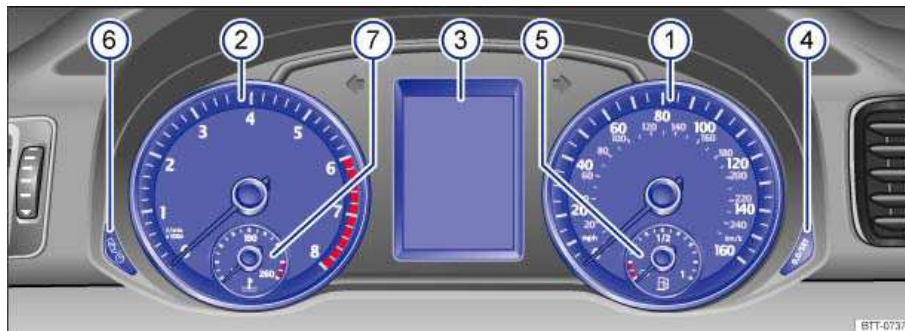

Fig. 10 Instrument cluster in the instrument panel.
Instrument explanations ⇒ fig. 10:
⇒ fig. 10 \(4\), ⇒ fig. 11 \(4\).
The service appointment reminder is shown in the instrument cluster display ⇒ fig. 10 (4), ⇒ fig. 11 (4).